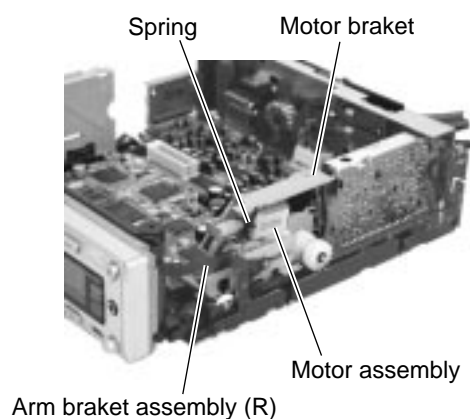

Fig.8
■ Removing the motor assembly (See Fig.8 to 10)
- 2. Remove the motor bracket and the spring attached to the arm bracket assembly (R).